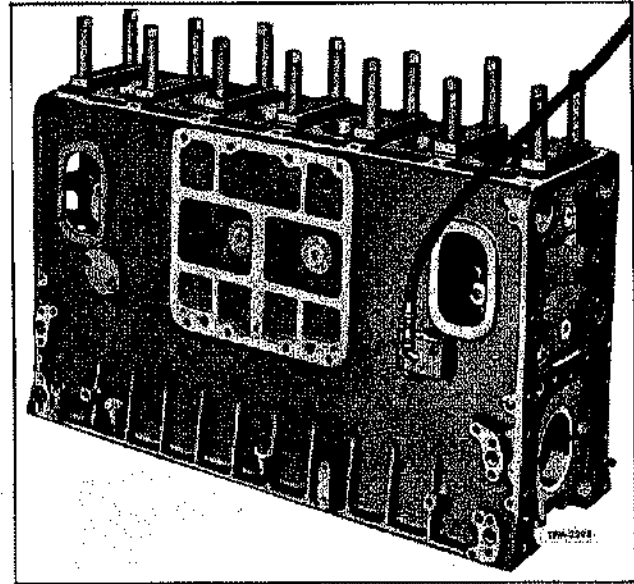

Figure 4—Checking Cylinder Block for Cracks and Leaks
1. Block off water inlets and outlets so that they are air tight (fig. 4).